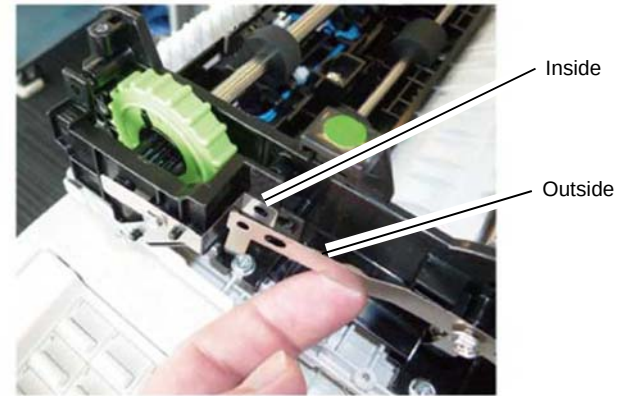

Figure 10 Ground plate installation
2. Install the front bracket and ground roll plate as shown in **Figure 10.**